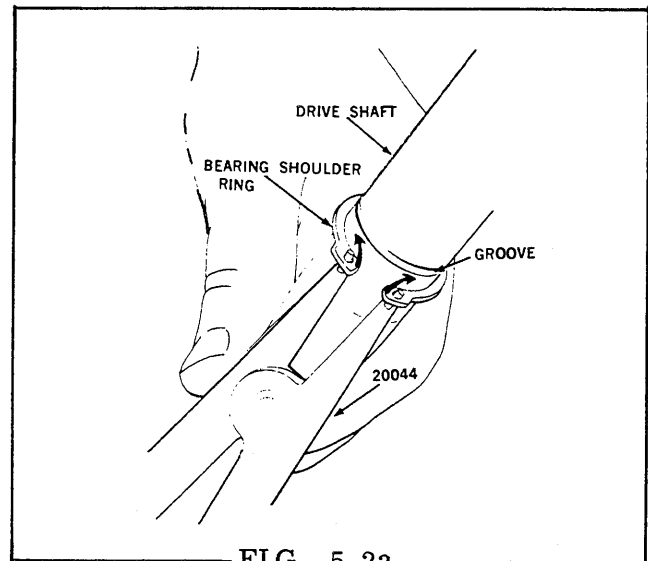

FIG. 5.2a
STEP 2 Install the bearing shoulder ring in the groove on the drive shaft using retaining ring pliers (No. 20044) (Fig. 5.2a).